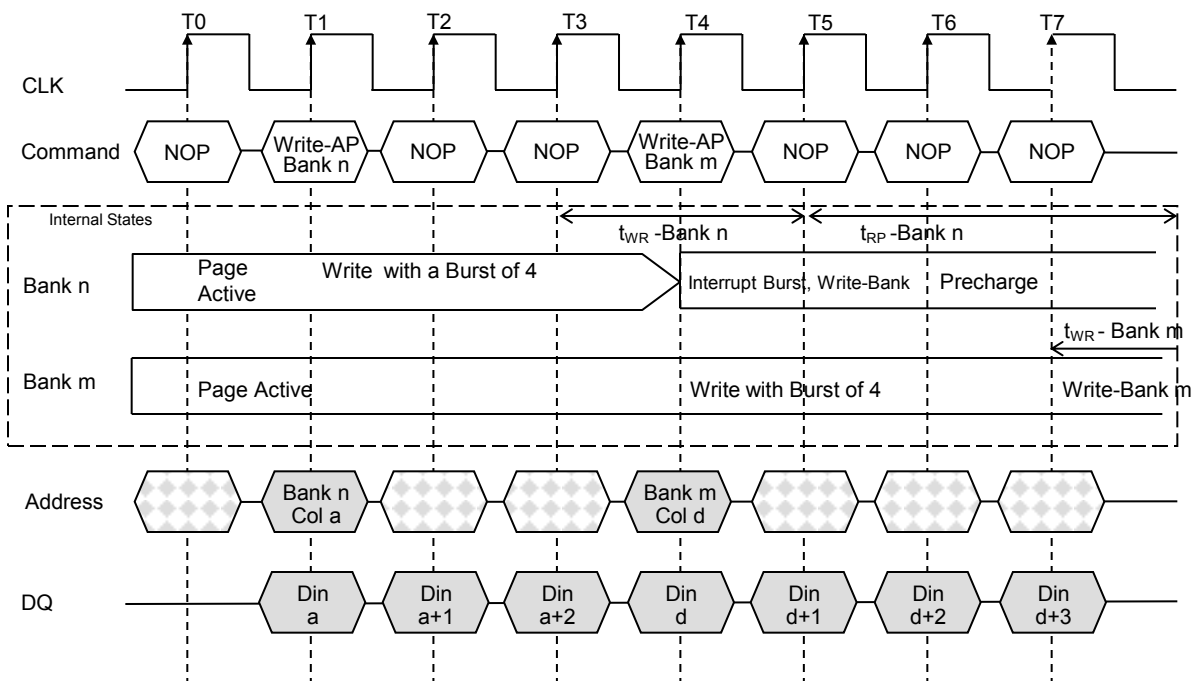

Figure 30. Write with Auto Precharge Interrupted by a Write
4. Interrupted by a Write (with or without auto Precharge): A Write to bank m will interrupt a Write on bank n when registered. The Precharge to bank n will begin after t_{WR} is met ,where t_{WR} begins when the Write to bank m is registered. The latest valid data Write to bank n will be data registered one clock prior to a Write to bank m.(Figure 30)